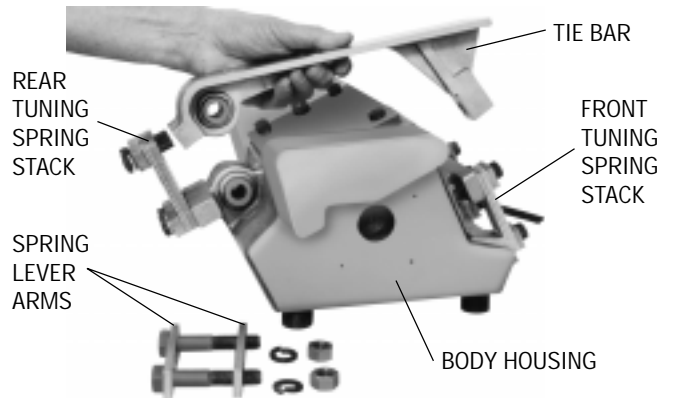

FIGURE 7
2. Remove, in order, the bolts securing (a) the upper end of the rear tuning spring stack to the tiebar, (b) the lower ends of the spring lever arms to the body housing, and (c) the lower end of the tiebar to the spring bar. Lift the tray-tiebar-ever assembly away from the body housing (see Figure 7)